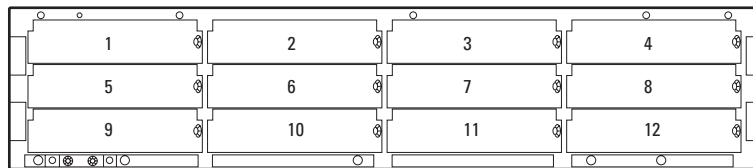

Figure 8. DX8100HDDI Drive Bays
The DX8100HDDI has 12 drive bays, one for each drive tray. Figure 8 shows the number for each drive bay.
- c. Using the label on the drive tray, install the drive tray in the drive bay labeled with the same number (refer to Figure 8 on page 15).